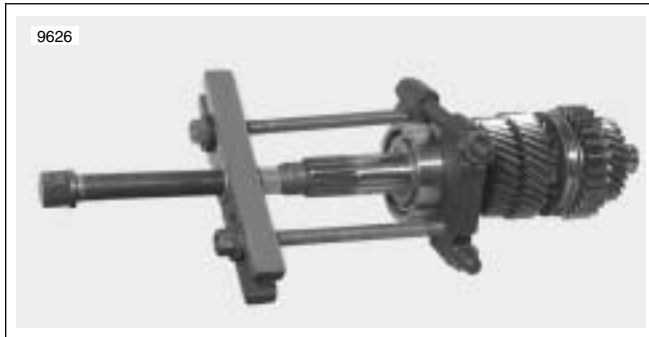

Figure 7-57. 1st Gear Bearing Removal
9. See Figure 7-57. Remove 1st gear crankcase bearing.